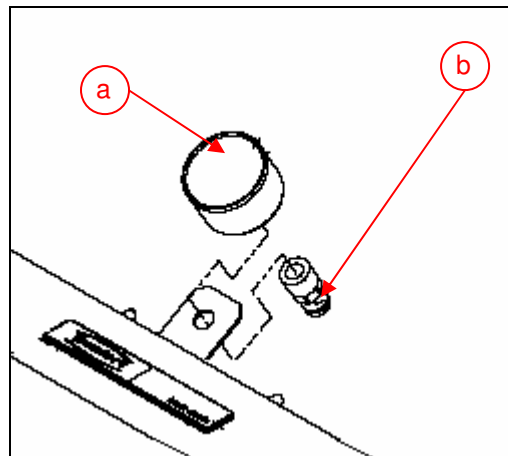

Fig. 3 - Pressure gauge
- Pull the pressured air hose out of the push-in connector (fig. 3 b) at the pressure gauge.
- Fasten the push in connector (fig. 3 b) at the gauge.